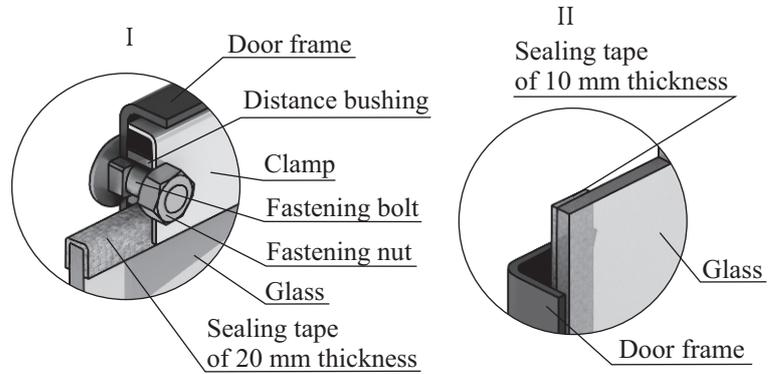

Figure 16. Fastening of translucent screen of the «Vitra» model door
1. Unscrew two nuts fixing the clamp (fig.16.I), and disassemble it and distance bushings.
3. Take new glass and if it doesn't have thread sealing tape stick them: tape of 20 mm in width is stuck from the top and from below the glass, in a «П» shape (fig. 16.I), tape of 10 mm in width is stuck vertically, along the lateral sides of the glass (fig. 18.II).
4. Insert the glass into the stop, at that the tape stuck from the lateral sides (vertical) shall be pressed between the glass and the door frame (fig. 16.II).
ATTENTION! Nuts fastening the clamp are screwed to the mounting bolts through the remote plugs (Figure 16.I).